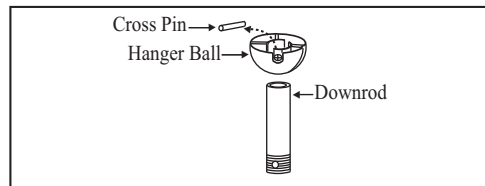

Figure 8
5. Remove hanger ball from downrod assembly by loosening set screw, removing the cross pin, and sliding ball off rod. (Figure 8)